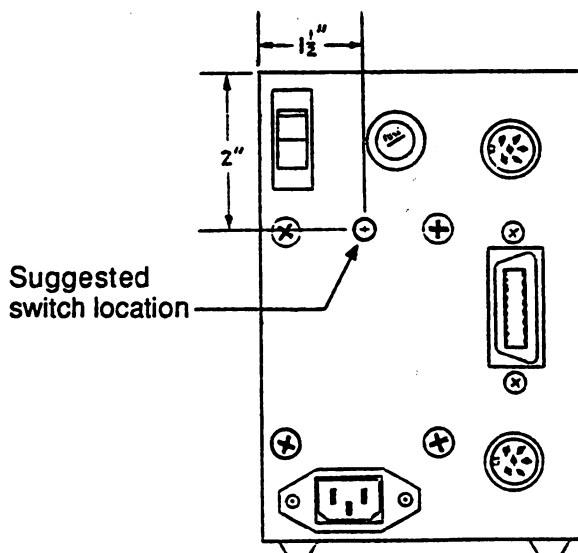

Figure 3 SUGGESTED SWITCH LOCATION
18. Drill a 1/4" hole in the MSD case assembly to accomodate the JiffyDOS ROM selector switch. A recommended location is given in Figure 3 below.